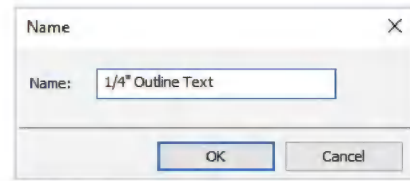

FIGURE 7-4.3 New text name
8. Select **Duplicate** and enter **1/4" Outline Text** (Figure 7-4.3).